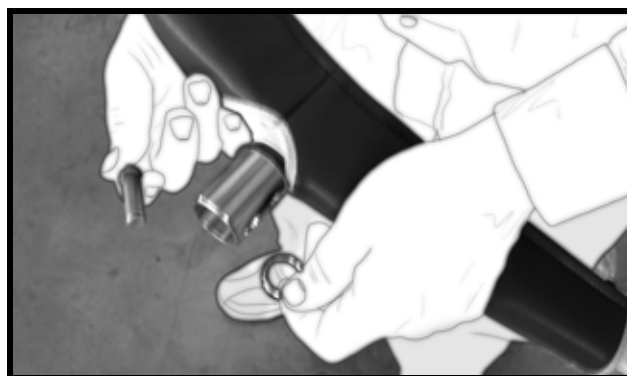

Fig. 59
- 2) Remove the spreader bar from the ceiling lift (see Fig. 59).